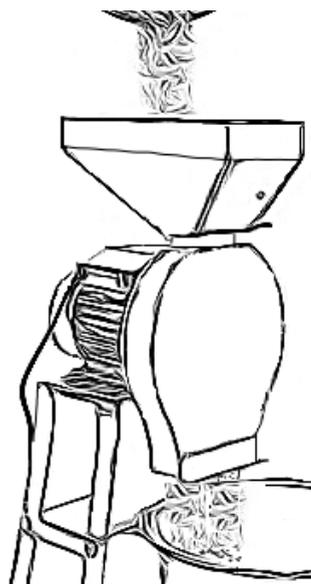

Fig. 7
- Either fill the hopper (2) with an appropriate amount of kibble or push dried corn cobs into the insert (4) one after the other. (Fig. 7)